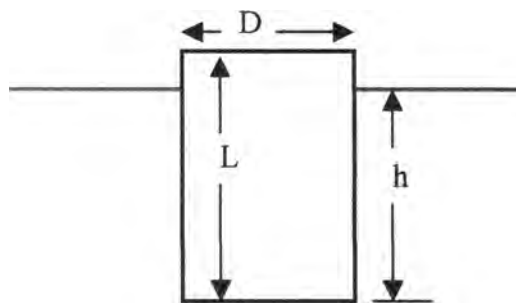

Fig. P2.127
**2.127\*** Consider a cylinder of specific gravity  $S < 1$  floating vertically in water ( $S = 1$ ), as in Fig. P2.127. Derive a formula for the stable values of  $D/L$  as a function of  $S$  and apply it to the case  $D/L = 1.2$ .